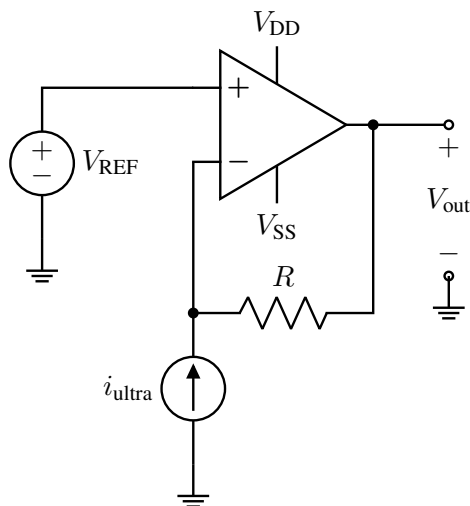

Figure 2: Transresistance sensor circuit
- Calculate the output voltage, V_{out} , of the transresistance sensor circuit shown in Fig. 2, as a function of the reference voltage, V_{REF} , the sensor input current, i_{ultra} , and the resistor, R , when an ultrasonic wave hits the sensor. Clearly show all your work and justify your answer. Writing only the final expression will not be given full credit.